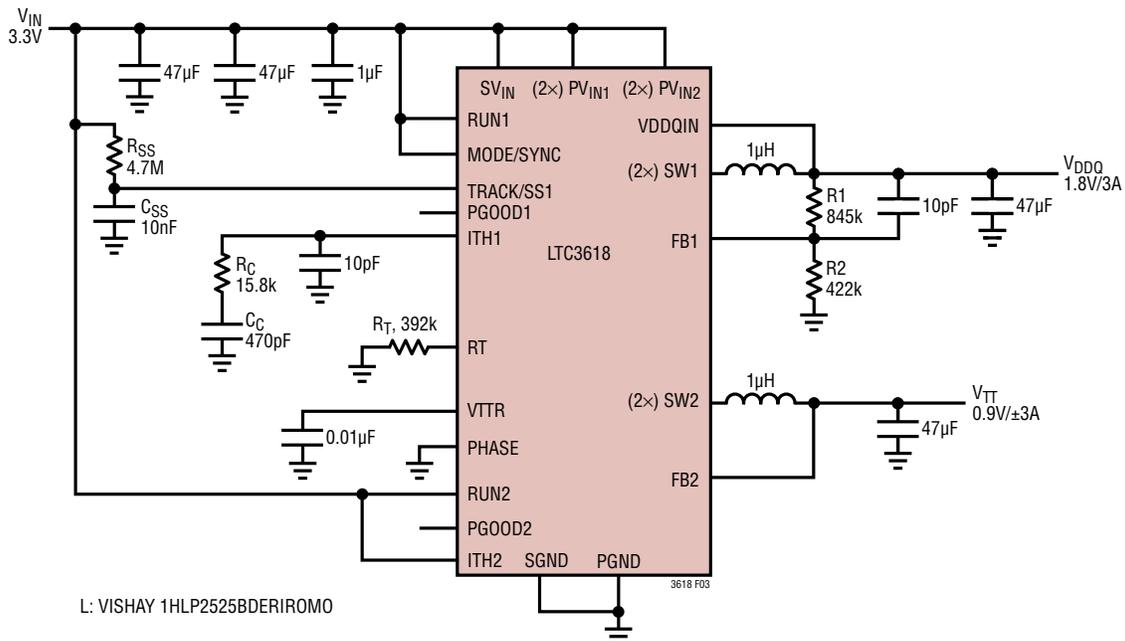

Figure 3. Soft-Start and Compensation for V_{DDQ} Externally Programmed, Compensation for V_{TT} Internally Programmed
TYPICAL PERFORMANCE CHARACTERISTICS $T_A = 25^\circ\text{C}$, $V_{IN} = 3.3\text{V}$, $f = 1\text{MHz}$, Figure 3 Circuit, unless otherwise noted.
The resistive divider allows pin V_{FB1} to sense a fraction of the output voltage as shown in Figure 3.
The ITH1 external components (15.8k and 470pF) shown in Figure 3 will provide an adequate compensation as well as a starting point for most applications. The values can be modified slightly to optimize transient response once the final PCB layout is complete and the particular output capacitor type and value have been determined. The output capacitors need to be selected because the various types and values determine the loop gain and phase. The gain of the loop will be increased by increasing R_C and the bandwidth of the loop will be increased by decreasing C_C . If R_C is increased by the same factor that C_C is decreased, the zero frequency will be kept the same, thereby keeping the phase shift the same in the most critical frequency range of the feedback loop. The output voltage settling behavior is related to the stability of the closed-loop system. The external compensation, forced continuous operation circuit in the Typical Applications section uses faster compensation to improve load step response.
After enabling the LTC3618 by bringing the RUNx pins above the threshold, the enabled channels enter a soft-start-up state. The type of soft-start behavior of V_{DDQ} is set by the TRACK/SS1 pin. The soft-start cycle begins with an initial discharge pulse pulling down the TRACK/SS1 pin to SGND and discharging the external capacitor C_{SS} (see Figure 3).
2. If a longer soft-start period is desired, it can be set externally with a resistor and capacitor on the TRACK/SS1 pin as shown in Figure 3. The voltage applied at the TRACK/SS1 pin sets the value of the internal reference at V_{FB1} until TRACK/SS1 is pulled above 0.6V. The external soft-start duration can be calculated by using the following equation: